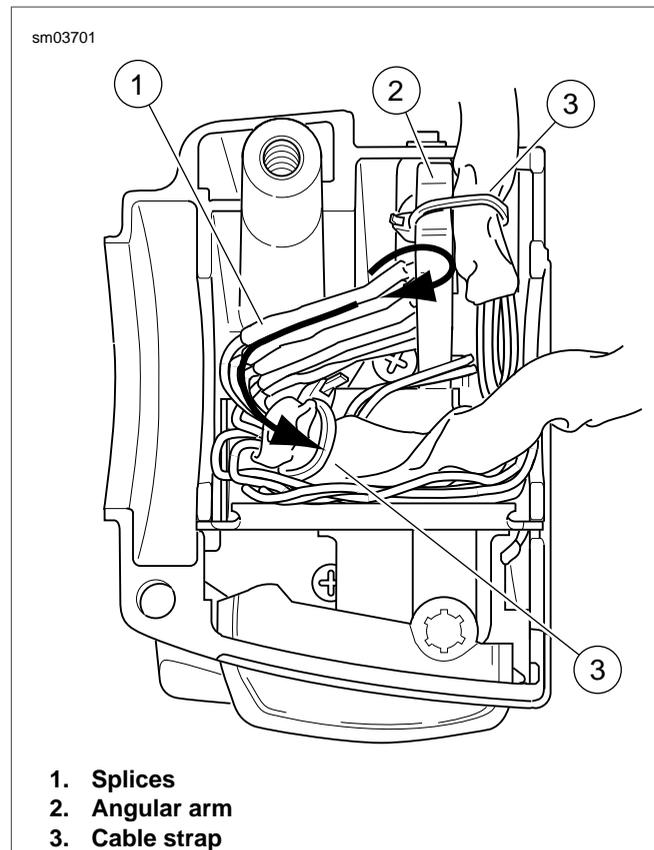

Figure 8-144. Lower Left Handlebar Switch Housing (With Splices) - Classic/Ultra Models
4. Loop switch wires, so that spliced lengths are positioned as shown in Figure 8-144.
7. Route wire bundle to upper switch housing below and then forward of the main wire harness positioning conduit in channel next to angular arm of bracket. See Figure 8-144. Secure bundle to arm using **new** cable strap. Cut any excess cable strap material.